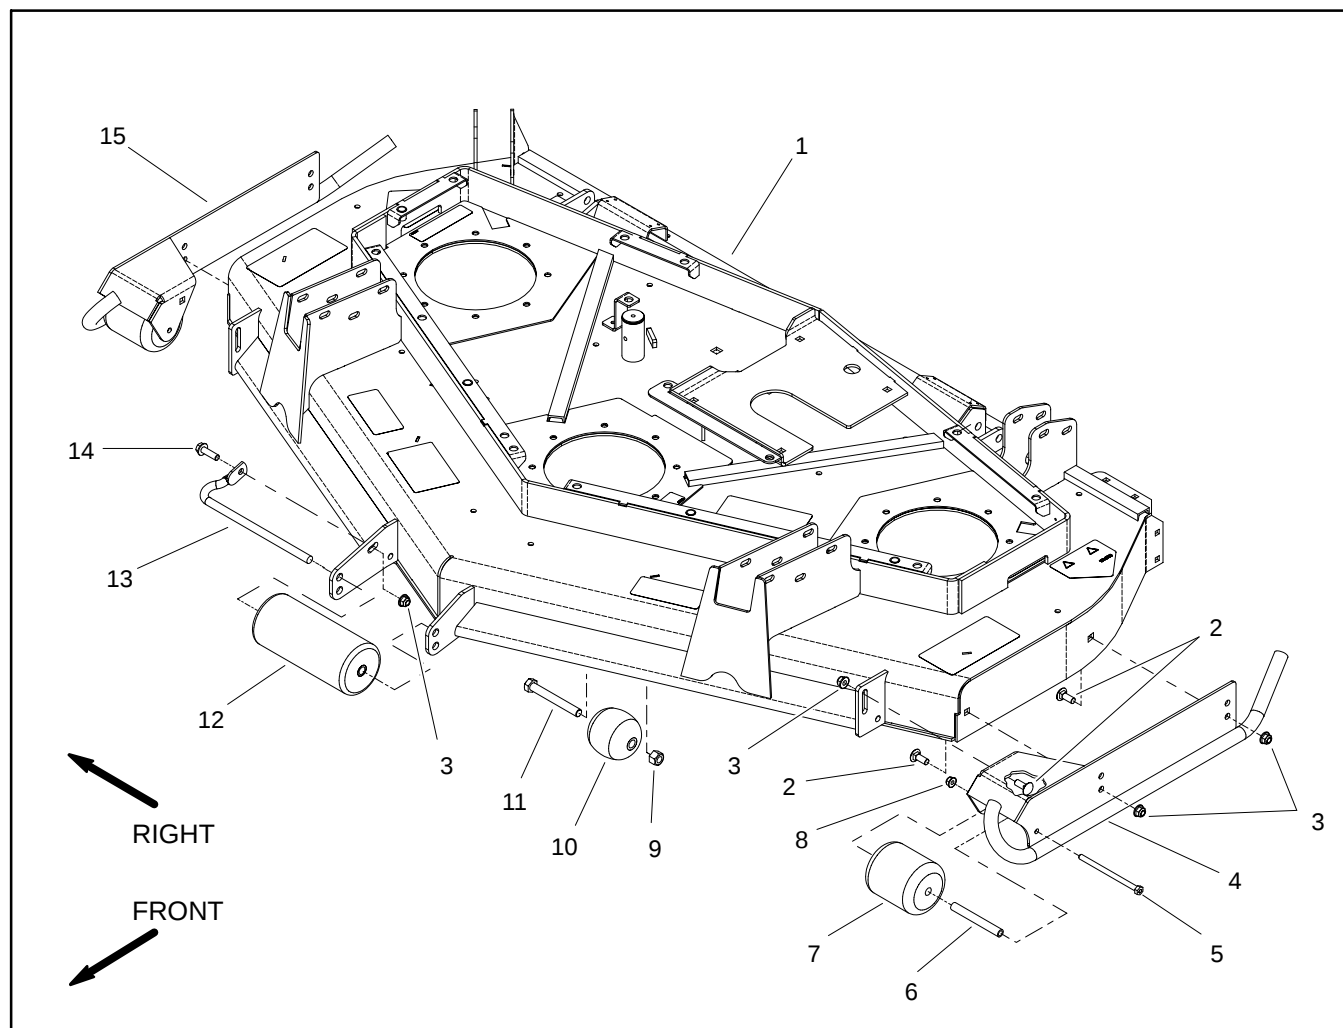

Figure 13
Removal (Fig. 13)
1. Remove skids and rollers from cutting deck using Figure 13 as a guide.
Installation (Fig. 13)
1. Install skids to cutting deck using Figure 13 as a guide. Make sure to install skids in the same mounting hole height position (lower or upper).